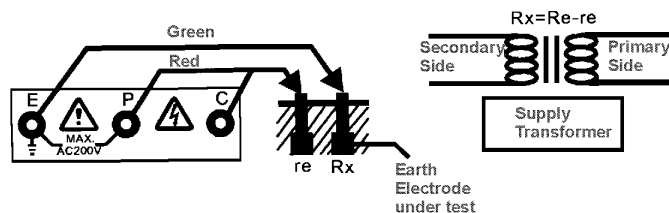

Fig. 2
- (1) This method is recommended where an earth resistance higher than $10\ \Omega$ is measured or where it is not possible to drive auxiliary earth spikes. An approx. value of earth resistance can be obtained by the two-wire system as shown in Fig. 2
- (2) Rotate the function switch to the "Earth Voltage" position and press to test. Make certain that earth voltage is less than 10 V.
- (3) First rotate the function switch to " $200\ \Omega$ " position and press to test. Read earth resistance. If the display shows "1" (MSD), switch to " $2000\ \Omega$ " and read earth resistance.
(4) The reading obtained (R_x) is an approx. earth resistance value.